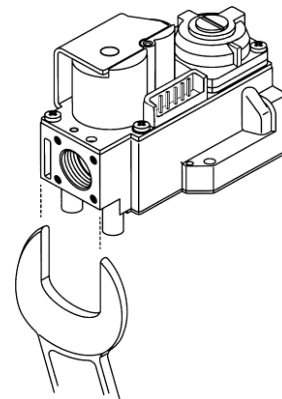

Fig. 4. Fig. 14.
- Tighten gas control using the right open end wrench. See fig. 4.